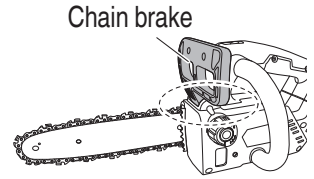

Fig. 46
5. **Cleaning the chain brake (Fig. 46)**